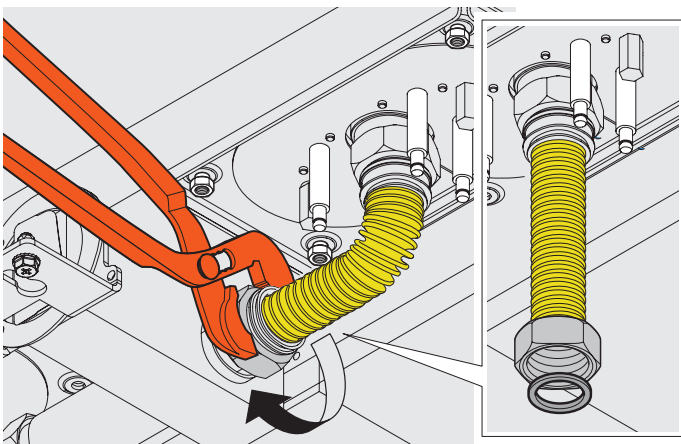

Figure 6
- b) Disconnect the feeding air/gas pipe from the blower pad as shown in Figure 6 by using a parrot nose pliers.